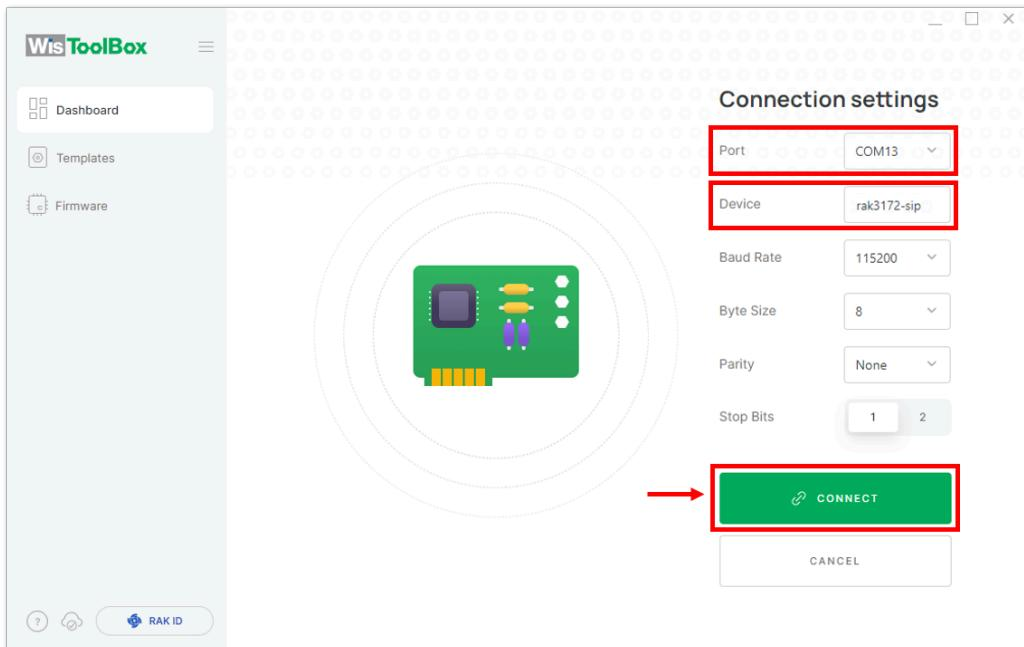

Figure 155: Setting up your device
3. Then select your target port where your **RAK3172-SiP** is connected. Once recognized, click **CONNECT** as shown in Figure 155.